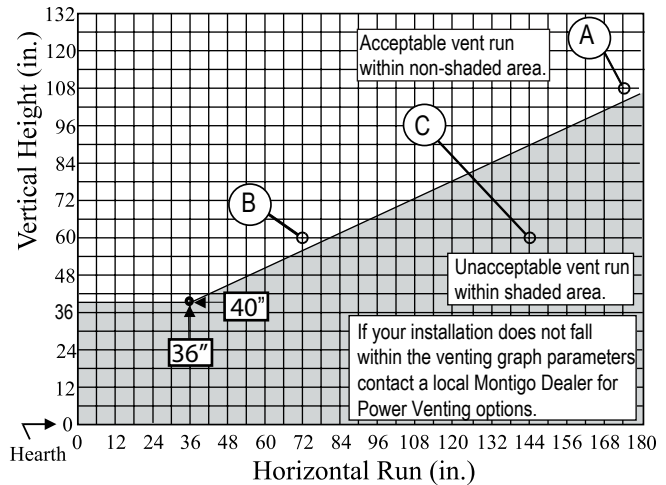

Figure 13. L52DF* Top Vent Venting Graph for wall mounted terminations.
- Once the proposed venting layout has been determined refer to **Figure 13 or 15** to ensure the layout is acceptable.
- Venting runs *must* fall within the limits set by the venting graph, see **Figure 13**.
Measure the vertical height from the fireplace hearth to the centre of the termination and the horizontal run from the fireplace flue collar to the wall flange of the termination. Plot on the Venting Graph **Figure 13** with an 'X'. If the 'X' falls on or above the top boundary of the shaded area, the installation is acceptable.
Figure 13a. Top Vented, wall mounted installation with one 90° bend. The vent run must comply with Venting Graph for Top vent, wall mounted terminations, **Figure 13.**